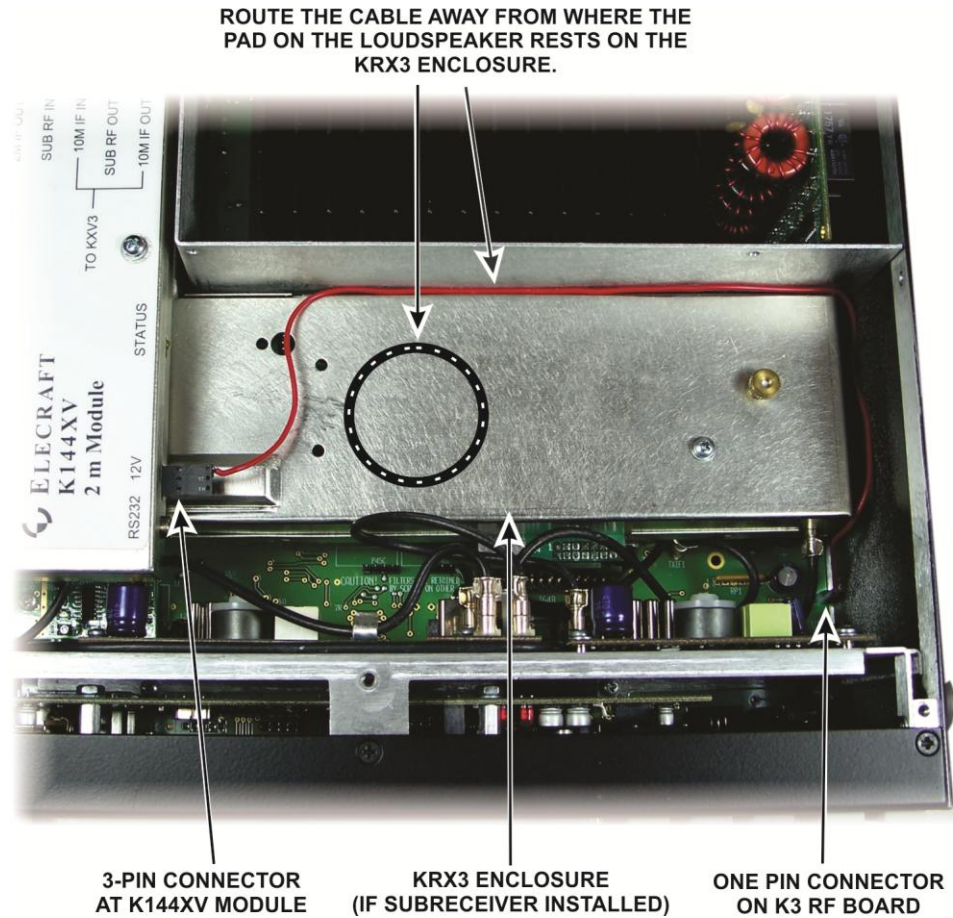

Figure 22. Attaching the K144XV Power Cable.
2. Reconnect the power cable as shown in Figure 22. The three-pin power connector is wired so it can be installed oriented either way. If the KXV3 sub-receiver is installed, route the wire as shown so it is not trapped under the loudspeaker pad when the top cover is replaced. Be sure the one-pin connector is still plugged into the K3 RF board.